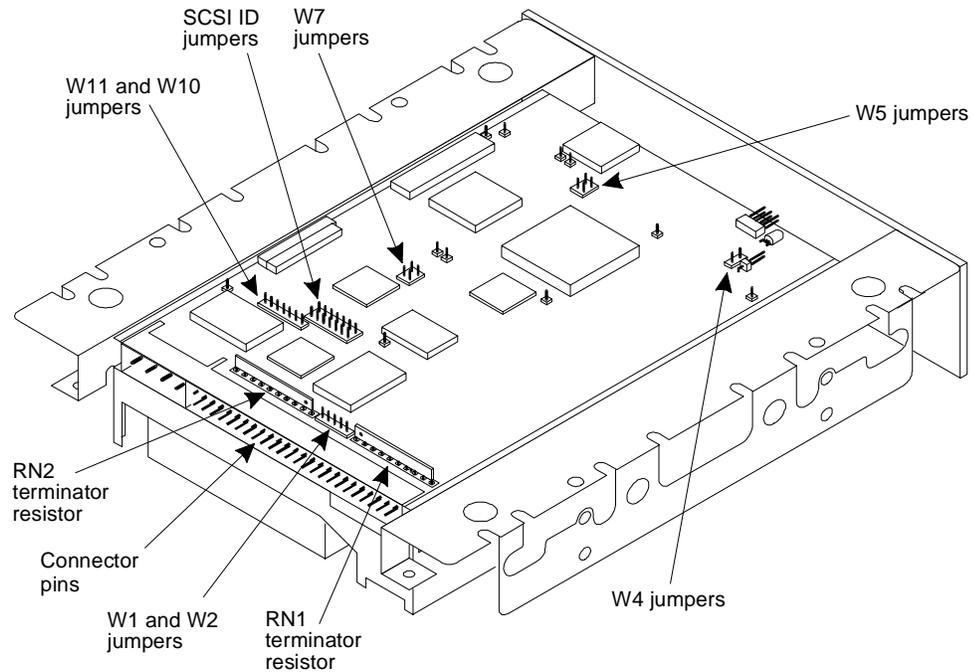
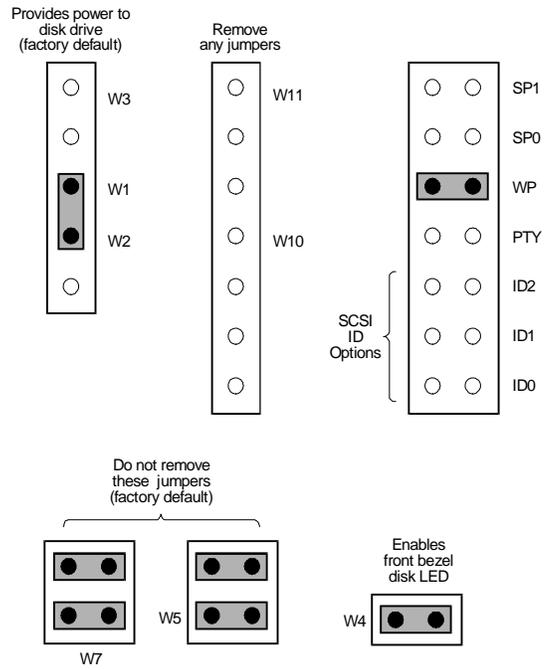
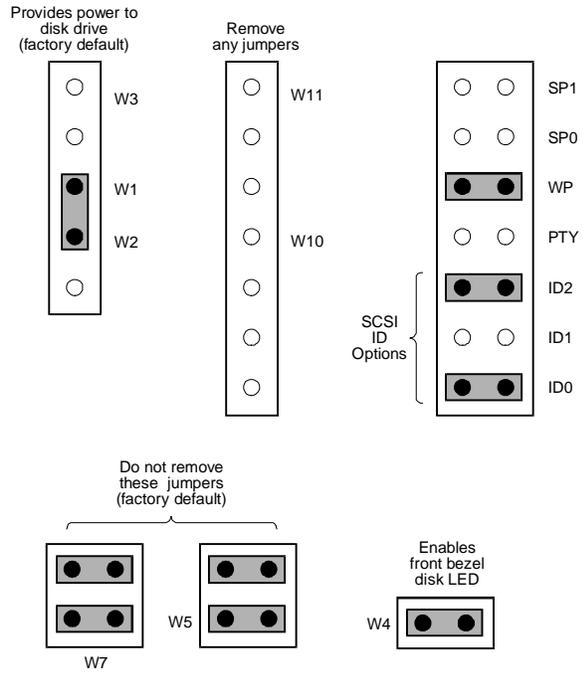

Figure 10-3. 1.7-Gbyte SCSI Hard Disk Drive
Figure 10-4. Jumper Settings for the First Disk Installed, Bay 1
Figure 10-9. Jumper Settings for the Sixth Disk Installed, Bay 4
5. Verify that the jumpers are positioned correctly (see Figure 10-3 for the location of the jumpers on the drive and Figure 10-4 through Figure 10-9 for the jumper settings). Remember that jumper settings for the SCSI ID change for each disk installed; that is, SCSI ID jumper settings for the third disk installed are different than those for the first disk installed.
1. Align the connector on the SCSI cable with the gold pins on the cable receptacle of the hard drive and push the connector into the cable receptacle (see Figure 10-3 for the location of the connector pins).